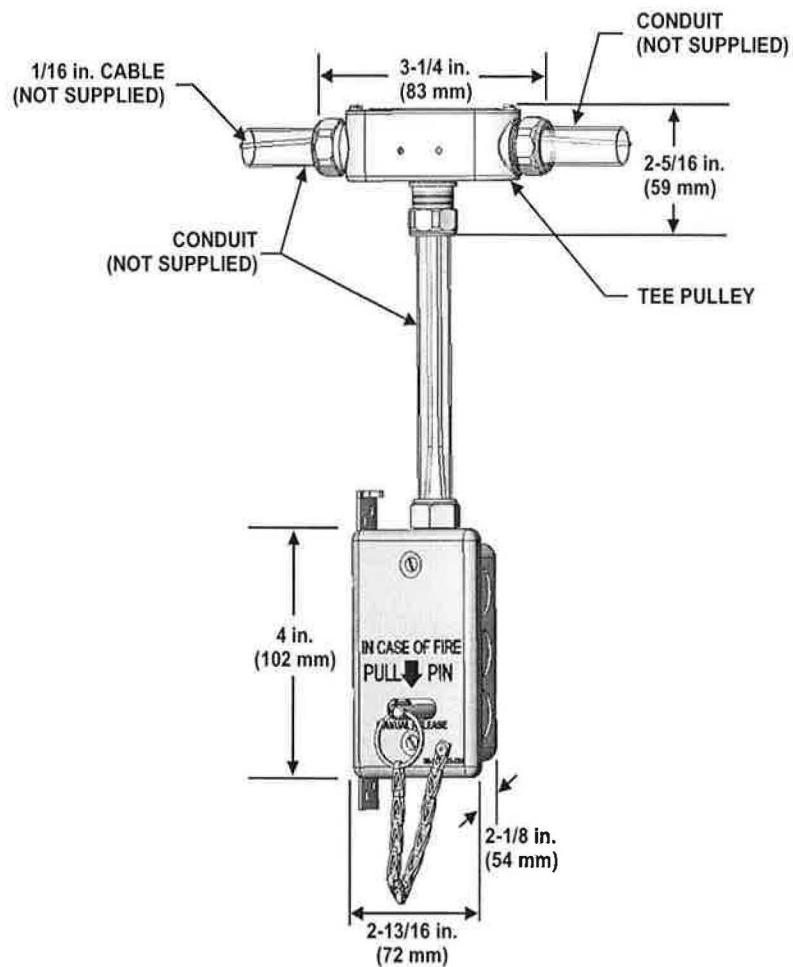

Figure 2-38. Recess Mounted, In-Line Remote Manual Release, P/N 9197460
- designed for installation within the detection line. A Tee Pulley is included with the In-Line Remote Manual Control (Figure 2-38).